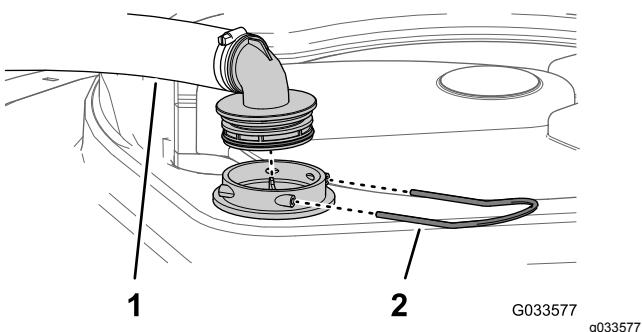

Figure 101
2. At the top of the sprayer tank, remove the retainer that secures the hose fitting attached to the large hose from the filter housing (Figure 101).
3. Remove the hose and hose fitting from the filter housing (Figure 101).